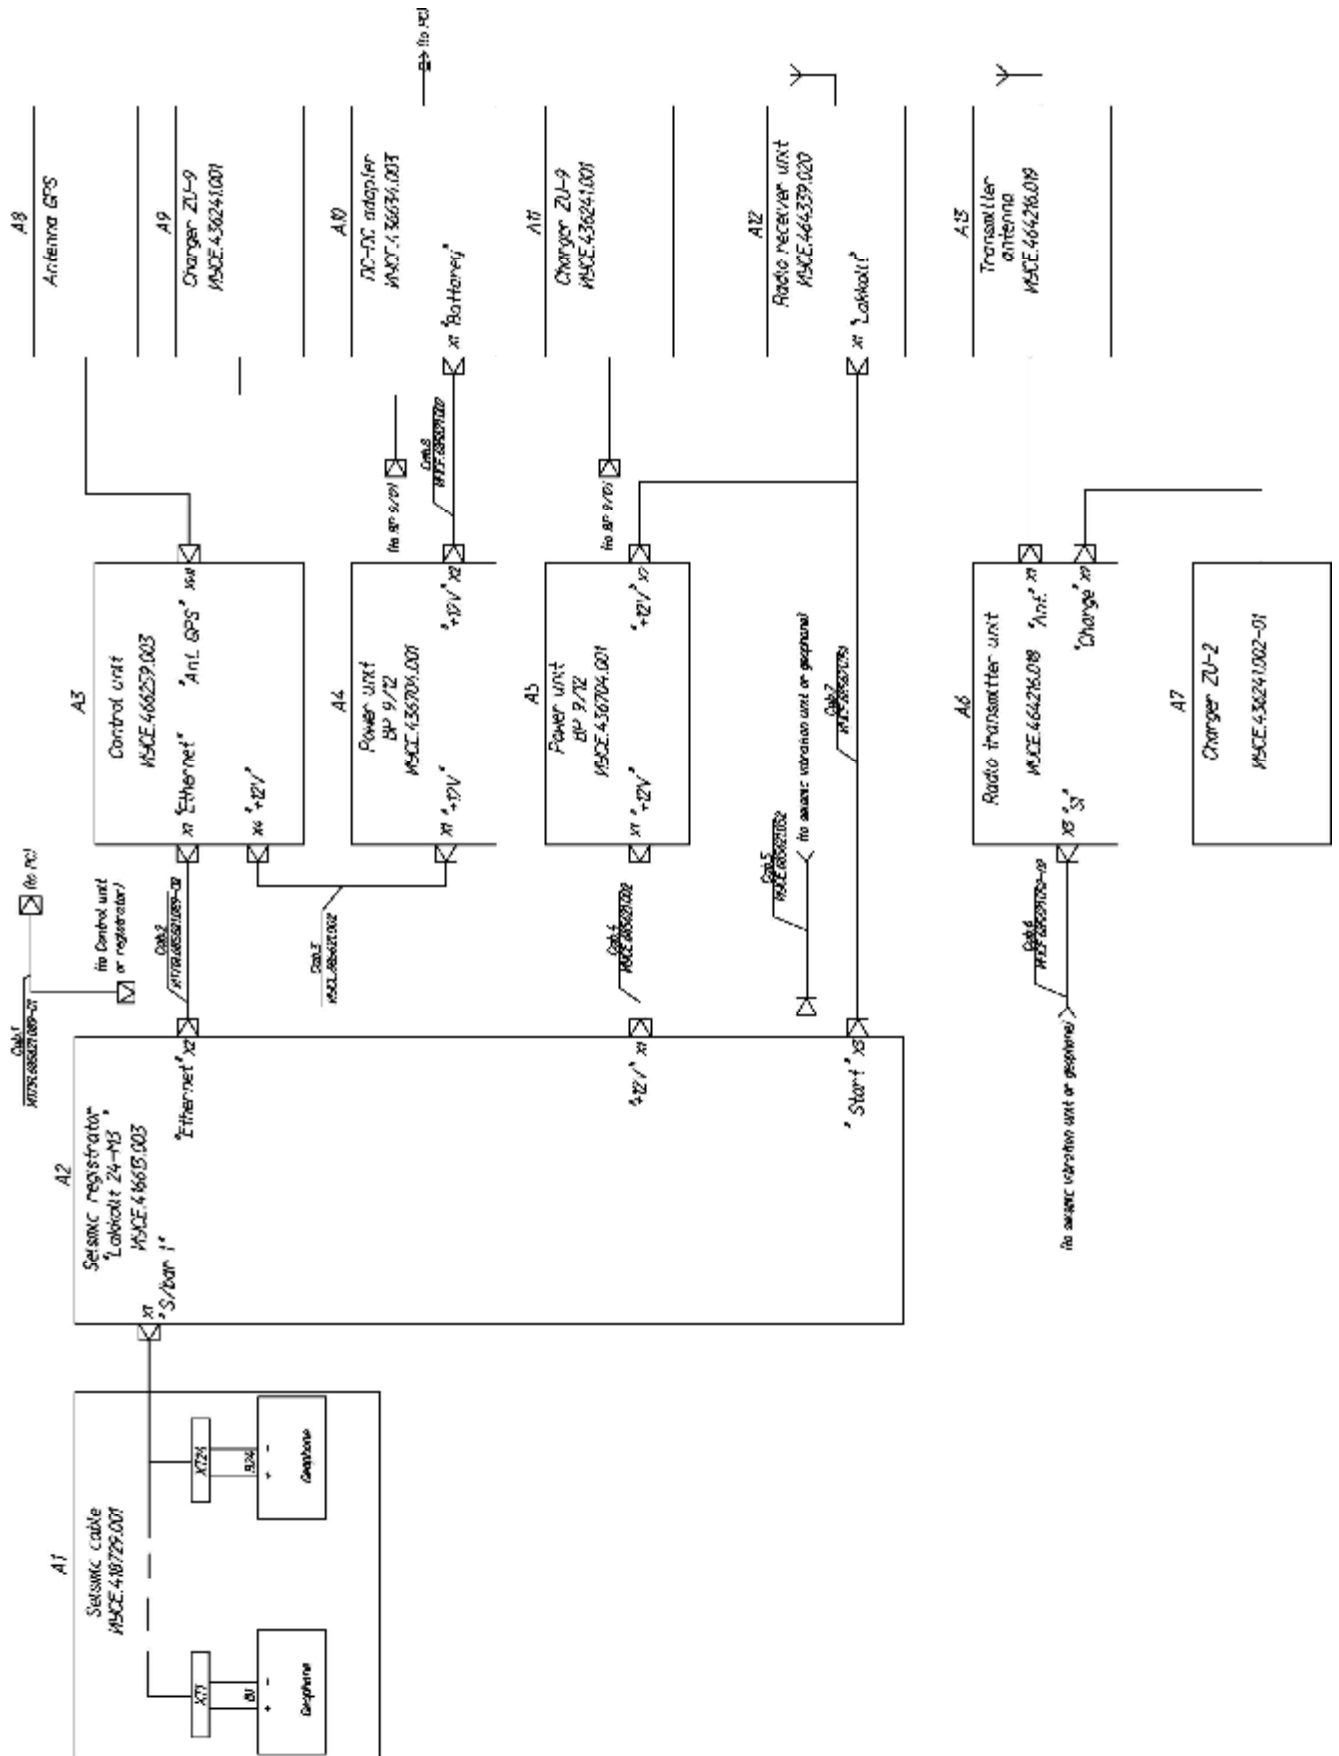

Fig. 1.
1. Connect Registrator to units of the System in accordance with schemes on Fig. 1. or Fig. 2. for versions without channels switcher or with him accordingly.